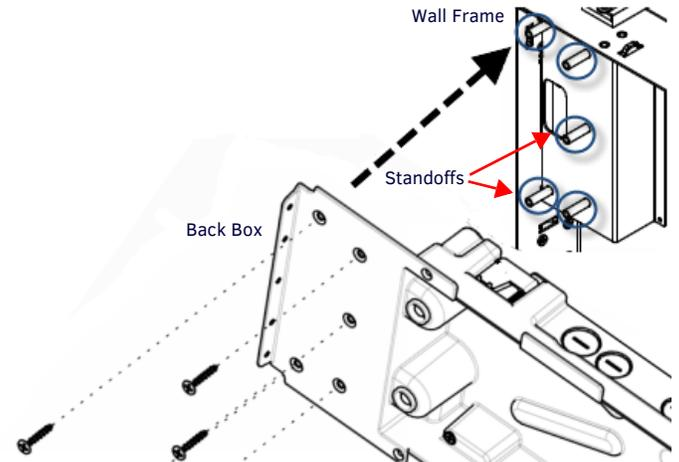

FIG. 4 ALIGN SCREW HOLES IN BACK BOX WITH STANDOFFS IN WALL FRAME
2. Ensure the corresponding wiring knockouts in the back box have been removed, and place the back box into the wall frame. Align the screw holes in the back box with the standoffs in the wall frame (FIG. 4).